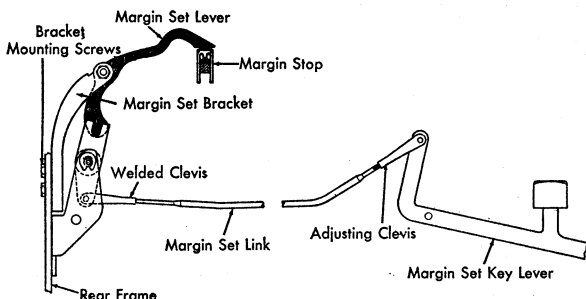

Figure 11. Margin Set Adjustment
The margin set lever may be removed by removing the mounting shaft or screw which holds it to the margin set bracket (Figure 11).
3. **MARGIN SET LINK.** Adjust this at the front so that the margin set lever will just clear the top of either margin stop when all parts are at rest (Figure 11).